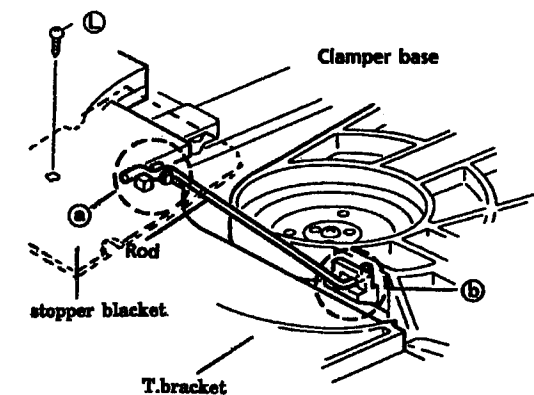

Fig. 20
2. Remove the screw ① holding the stopper bracket.(See Fig.20) ---- (U.S.A and CANADA only)
3. Remove the rod from both ends' hooks which are secured on T.Bracket ② and clamber base③. [See Fig. 20]